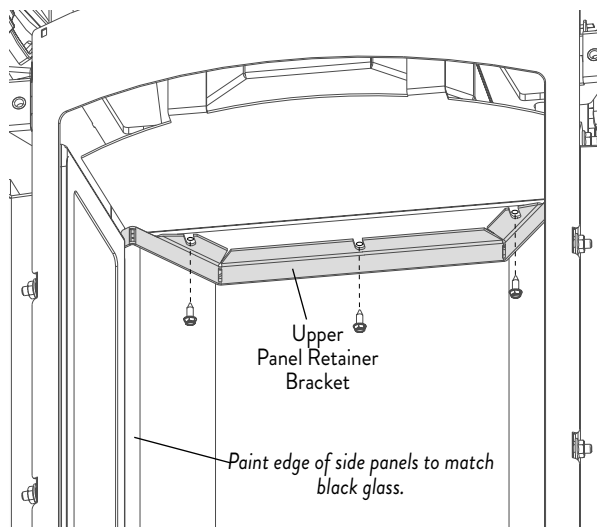

Figure 7.9. Loosen the panel retainer screws.
- Remove the Upper Retainer Bracket from the firebox with removal of three #8 x 12 sheet metal screws. See fig. 7.9.